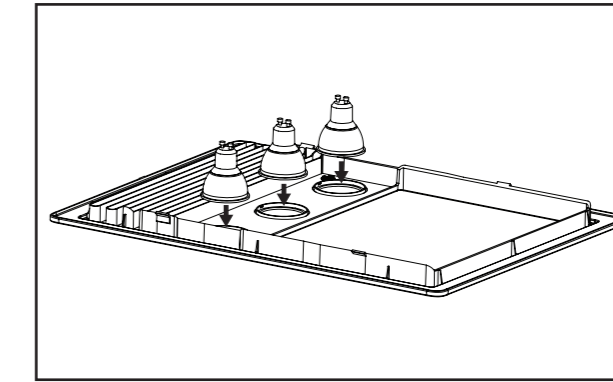

Fig 13.
6. Lift the fascia up to the unit and clip the LEDs into the recesses on the back of the fascia. There are 2 tabs in each recess to clip into. (Fig 13).